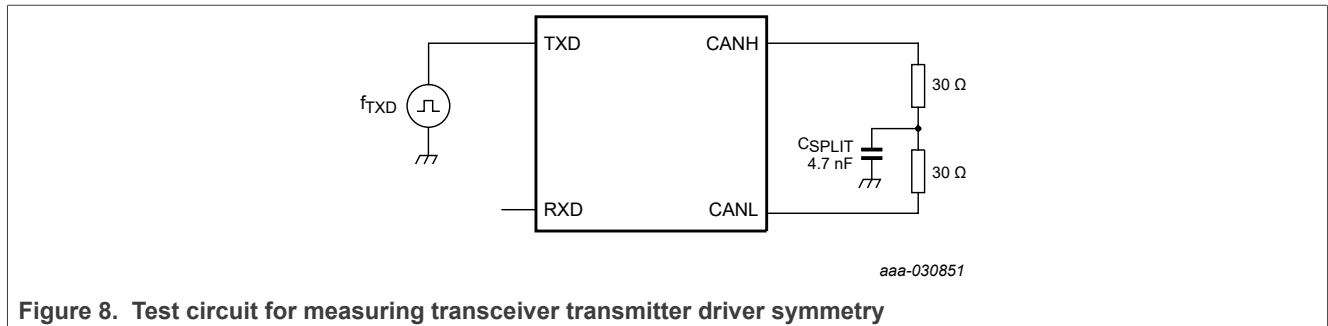

Figure 8. Test circuit for measuring transceiver transmitter driver symmetry
- [1] Only the TJA1044VT(K)/3 and TJA1044DT(K) variants have a V_{IO} pin; all circuitry is connected to V_{CC} in the other variants.
- [6] The test circuit used to measure the bus output voltage symmetry and the common-mode voltages (which includes $C_{SP\text{LIT}}$) is shown in Figure 8.